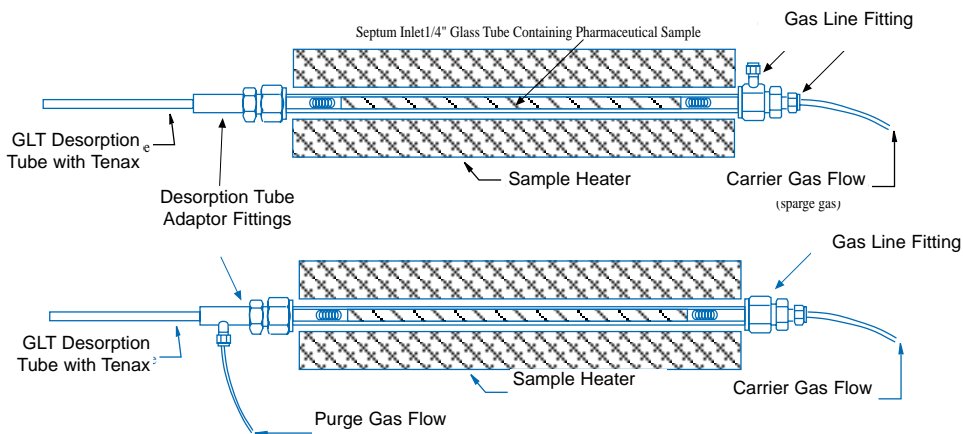

Figure 4 - Cross Section of Sample Collection Oven for the collection of thermally sparged volatile samples
The Sample Collection Oven permits the analysis of trace components in larger sample sizes than could be analyzed by direct thermal desorption in the Short Path Thermal Desorption System. Samples to be analyzed are placed inside glass tubes and held in place by glass wool plugs. The system is designed to sample from 0.5" diameter tubes, and also from 0.25" diameter tubes with optional adaptors. Sample tubes are each 14" long. Samples up to 20 grams can be sampled in the 0.5" diameter tubes. When ready for sample collecting, the long tube containing the sample is placed in the Sample Collection Oven, fitted at one end with a supply of carrier gas to flush out the residues, and fitted at the opposite end with an adaptor fitting and a preconditioned desorption tube with adsorbent resin (**Fig. 4**). The Oven is set for the predetermined temperature and the desired components are collected onto the desorption tubes. Oven temperatures can range from room temperature up to 250°C. The temperature used, as well as the time of sampling, depends on the nature of the samples being analyzed and the requirements of the analyst. By providing gas flow from a carrier gas such as Nitrogen or Helium through the heated sample tubes while sampling, the volatile and semi-volatile organics will be purged from the sample and will be trapped by the adsorbent in the desorption tube.
3. On front of Collection Oven connect quick disconnect fitting to 1/8" flexible transfer line via S.S. Connector, 0.5" to 1/8" Swagelok to provide gas flow through sample tube (**Figs. 4 & 5**).
4. At the opposite end of the sample tube connect a preconditioned desorption tube with adsorbent resin to the sample tube via a S.S. Connector, 0.5" Swagelok to desorption tube (**Figs. 4 & 5**). Refer to Conditioning Oven Manual for conditioning desorption tubes.